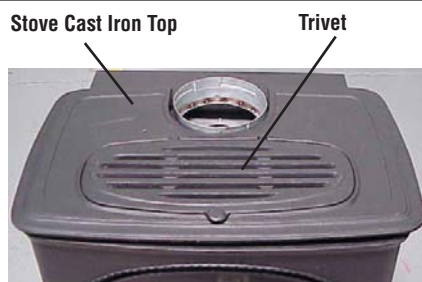

Figure 35
- A. Place the cast iron top into position on the stove top (See Figure 35). Place the trivet into the recess on the cast iron top (See Figure 35).